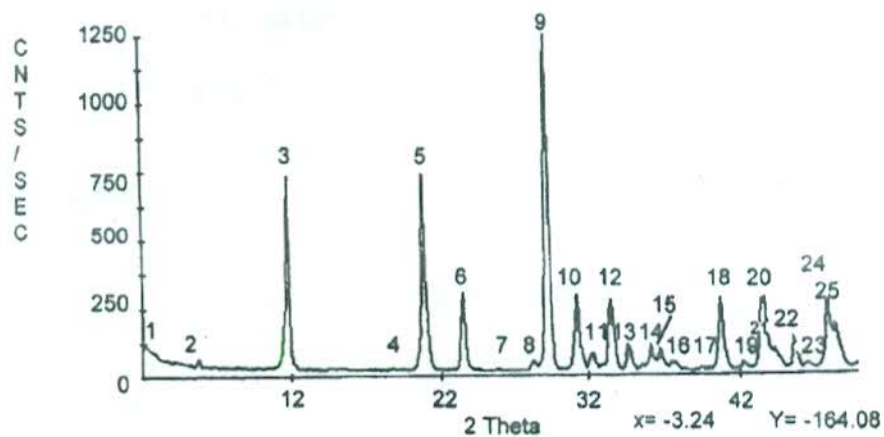

Figure 1 Powder X-ray diffraction pattern of a clay sample.
o. Figure 1 below is a powder X-ray diffraction pattern for a clay sample. The first order CuK α primary X-rays had a wavelength of 1.5405. Calculate the inter-planar spacings of peaks 3, 5, 6, 9, 10, 12 and 18 and state the unit of measurement.